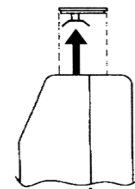

figure 7a
5. Replace grill removed in previous step 2. by pressing it into position until it locks. The aluminum reflector must be positioned over the lamp, nearest the front of the unit. (figure 7a)